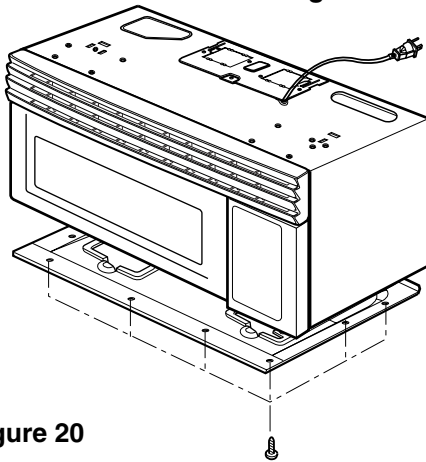
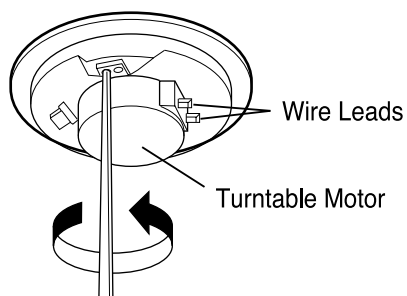

Figure 20
Figure 21
- (3) Remove the base plate by removing eight screws securing it to the oven cavity. (Figure 20)
- (4) Disconnect the leadwire from the turntable motor terminals.
- (5) Remove a screw securing the turntable motor to the oven cavity ASS'Y. (Figure 21)